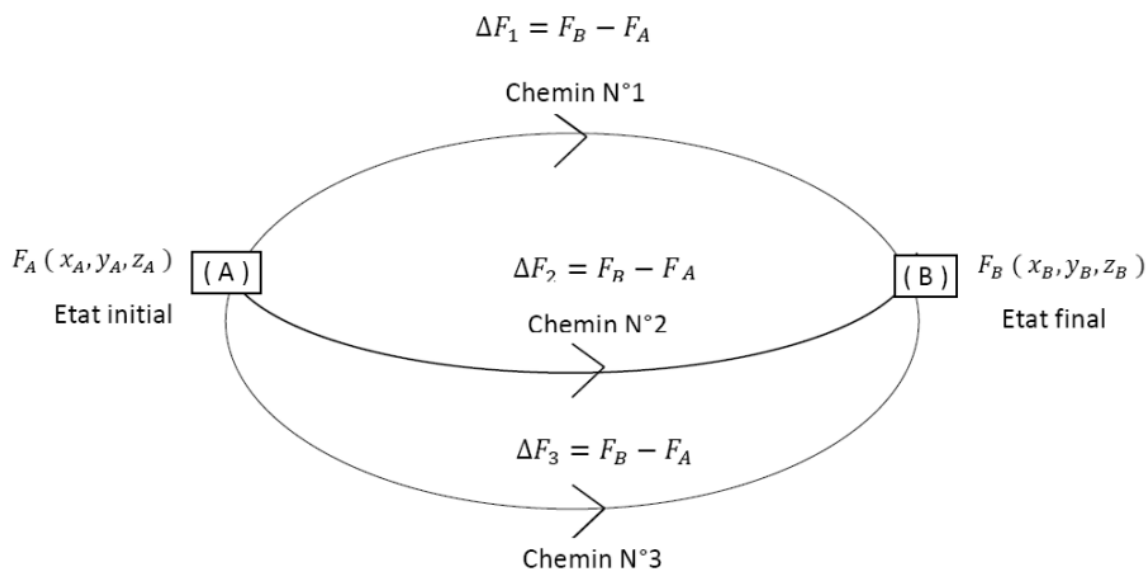

Figure I.18: Definition of a state function
A state function is a quantity which is linked to state variables such as internal energy (U), enthalpy (H), entropy (S)... It is a function of two or several variables, its differential must be exact total and its integral does not depend on the path followed (Figure I.18).